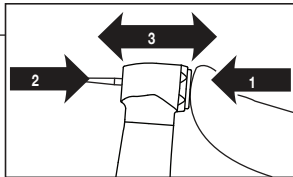

Fig. 5
- 1) Insert the bur into the chuck. (Fig.5)
- 3) Make sure it inserted firmly till the end of the head. (Fig.5)